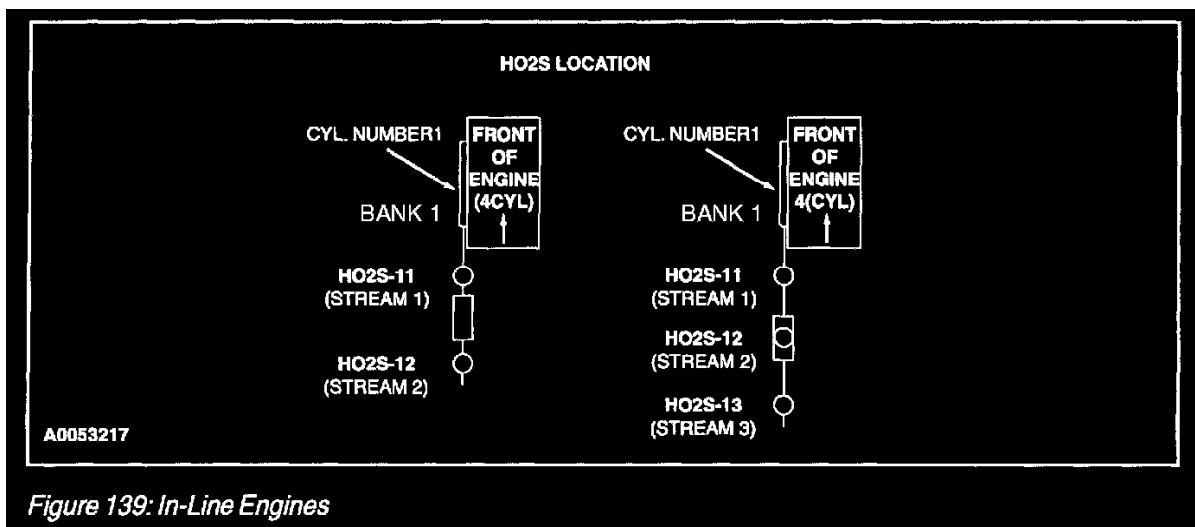

Figure 139: In-Line Engines
The purpose of the exhaust system is to convey engine emissions from the exhaust manifold to the atmosphere. Engine exhaust emissions are directed from the engine exhaust manifold to the catalytic converter through the front exhaust pipe. An HO2S is mounted on the front exhaust pipe before the catalyst. The catalytic converter reduces the concentration of carbon monoxide (CO), unburned hydrocarbons (HCs) and oxides of nitrogen (NOx) in the exhaust emissions to an acceptable level. The reduced exhaust emissions are directed from the catalytic converter through another HO2S mounted in the rear exhaust pipe (Figure 139) and then on into the muffler. Lastly, the exhaust emissions are directed to the atmosphere through an exhaust tailpipe.